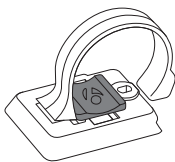

Figure 2. Pad inserted in computer base.
- ✦ Insert the rubber pad (B) with logo into the back of the computer base (Figure 2).